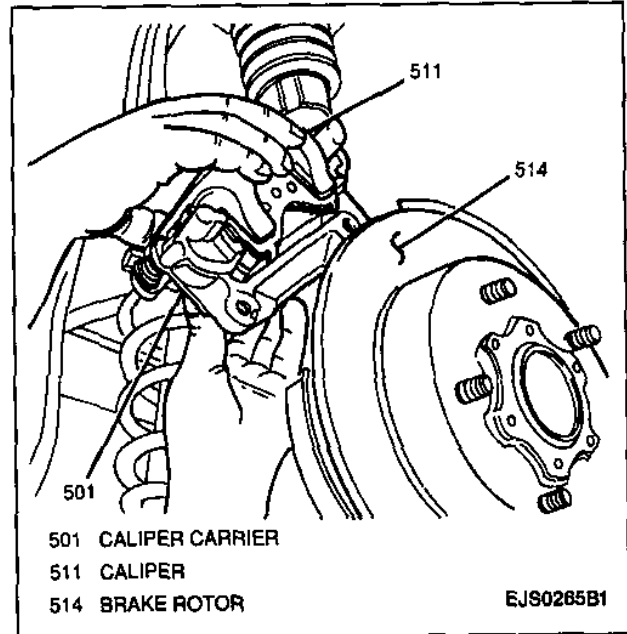

Figure 13—Removing Caliper/Caliper Carrier from Brake Rotor
7. Lift caliper/caliper carrier, along with brake pads, off of brake rotor (Figure 13).